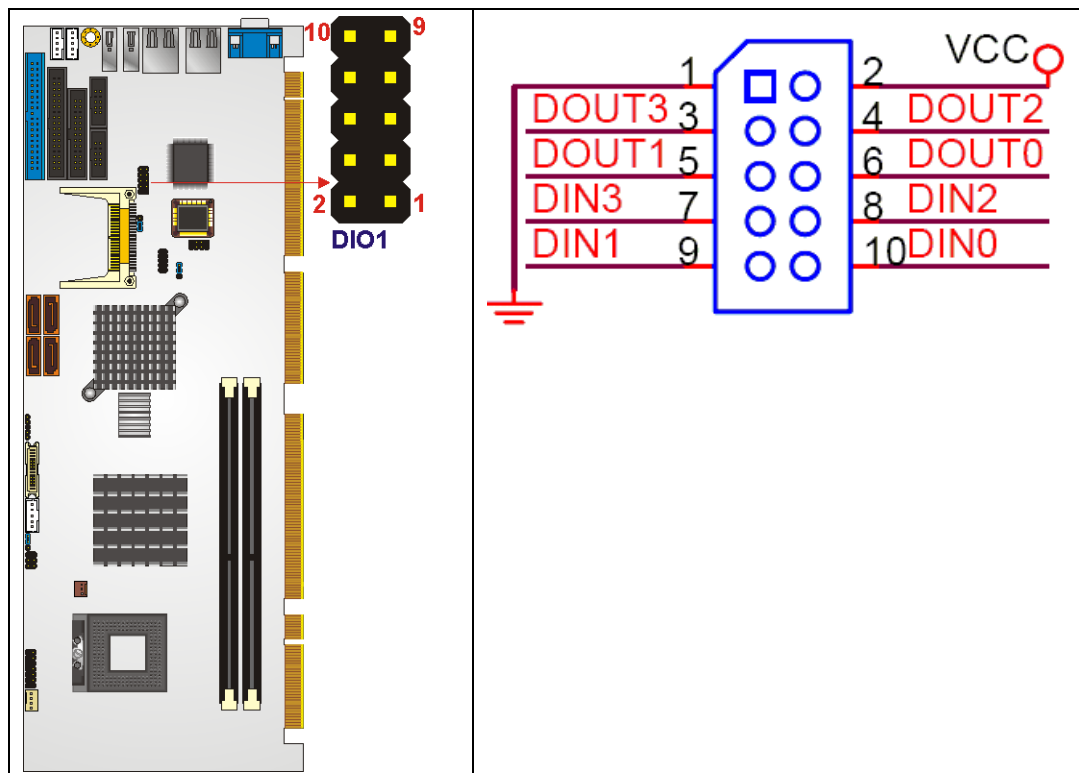

Figure 4-6: DIO Connector Connector Locations
- CN Location:** See Figure 4-6